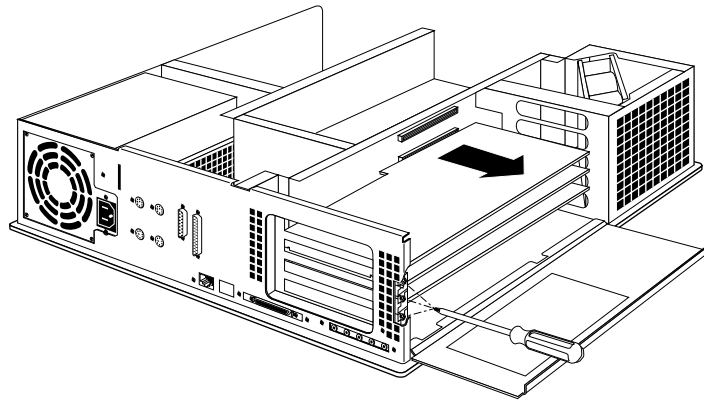

Figure 3-10 Removing the Extreme Board Set
4. Remove the screws attaching the board set to the system slots as shown in Figure 3-10.